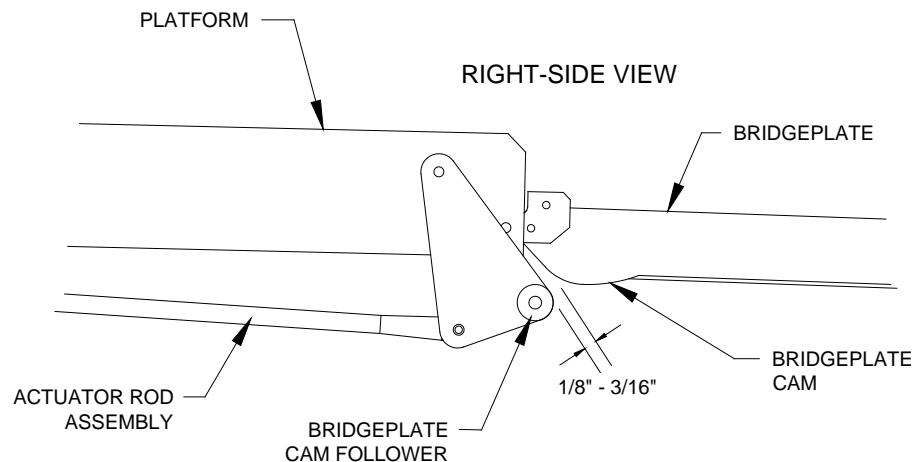

FIGURE 2-4: BRIDGEPLATE ADJUSTMENT
- h. Refer to **Figure 2-4**. Turn left-side rod-end to achieve a clearance of $1/8''$ to $3/16''$ (3mm to 5 mm) between bridgeplate cam and bridgeplate cam follower when shoulder bolt and spacer are installed. Tighten shoulder bolt, then tighten rod-end jam-nut.